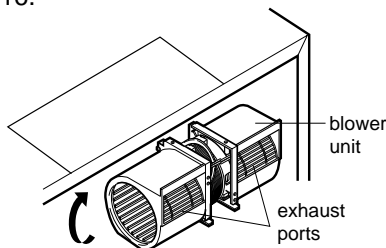

Figure 13
4. Rotate the unit so that the exhaust ports face the rear of the cabinet. See Figure 13.